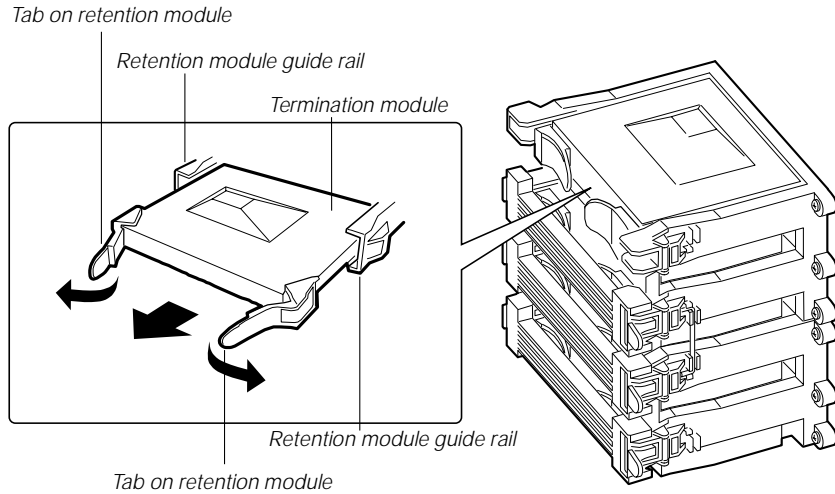

Figure 9: Removing the Termination Module
- Pull the two tabs attached to the termination module (visible after you remove the bracket—C in Figure 9) straight away from the system board. As you do, the termination module disengages from the connector on the system board.